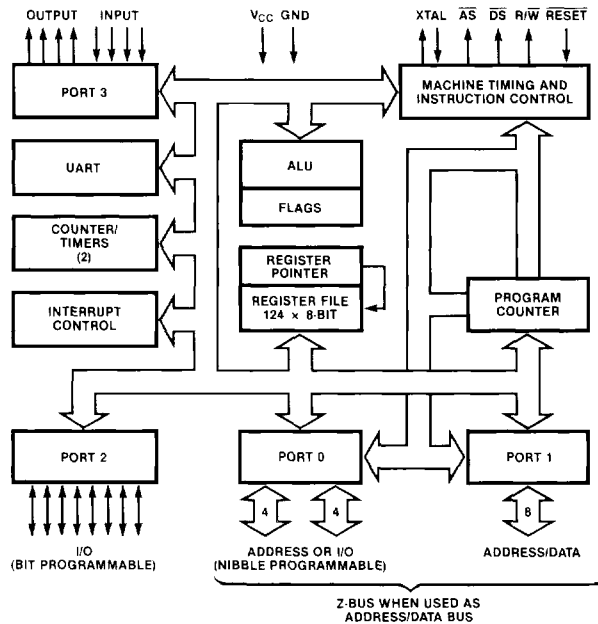

Figure 3. Functional Block Diagram
To unburden the program from coping with real-time problems such as serial data communication and counting/timing, an asynchronous receiver/transmitter (UART) and two counter/timers with a large number of user-selectable modes are offered on-chip. Hardware support for the UART is minimized because one of the on-chip timers supplies the bit rate. Figure 3 shows the Z8691 block diagram.
**$P0_0$ - $P0_7$ ,  $P2_0$ - $P2_7$ ,  $P3_0$ - $P3_7$ .** *I/O Port Lines* (input/outputs, TTL-compatible). These 24 lines are divided into three 8-bit I/O ports that can be configured under program control for I/O or external memory interface (Figure 3).